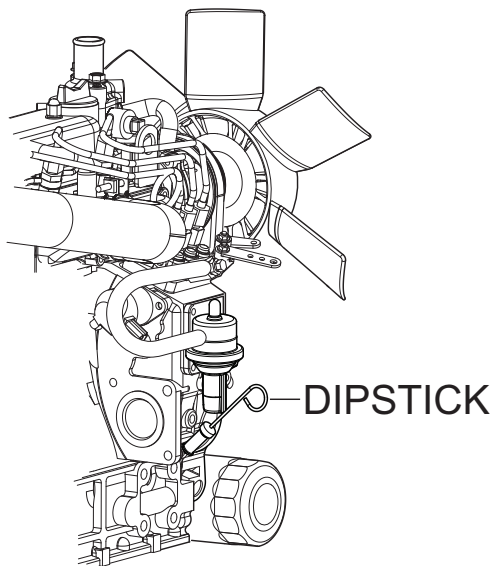

Figure 13. Engine Oil Dipstick Removal
2. Remove the dipstick from its holder (Figure 13) and wipe clean.